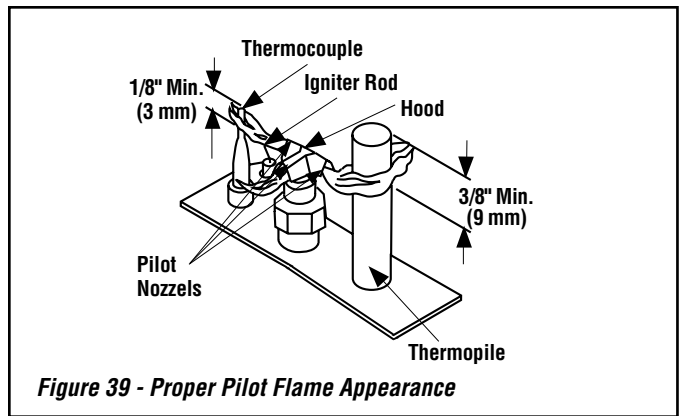

Figure 39 - Proper Pilot Flame Appearance
- Inspect the pilot system for proper flame (see **Figure 39**). NEVER ADJUST THE PILOT until after the gas pressure has been checked and the supply lines have been completely bled (this may take an hour or more when bleeding through the pilot). All pilots are checked and burned at the factory prior to shipment. The pilot adjustment screw is located below the ON/OFF/PILOT control knob. Remove the pilot adjusting cover with a flat-bladed screwdriver to access the pilot adjusting screw. Adjust the pilot screw to properly size the flames. The flames should directly contact the thermopile and extend across the main burner ports. Be careful not to back the screw out of its threads. Replace the cover and check for gas leaks using a gas leak test solution.
| Inspecting/Cleaning Pilot | Qualified Service Technician | Refer to Figure 39 on Page 26 . Remove any surface build-up on pilot assembly. Wipe the pilot nozzles, igniter electrode and hood. Ensure the pilot flame engulfs the thermopile and thermocouple as shown. |